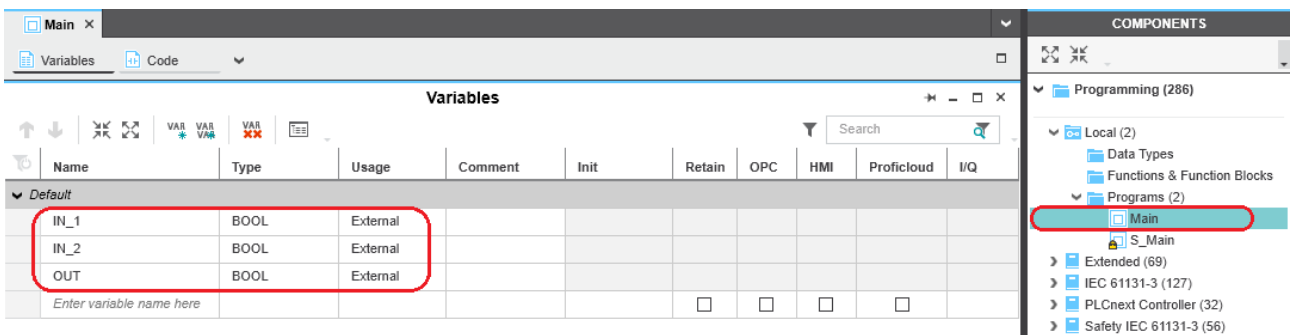

Figure 4-25 Creating variables for a POU (in the example: for the “Main” POU)
- Create the variables that you need for the selected POU (in the example in Figure 4-25: Main).